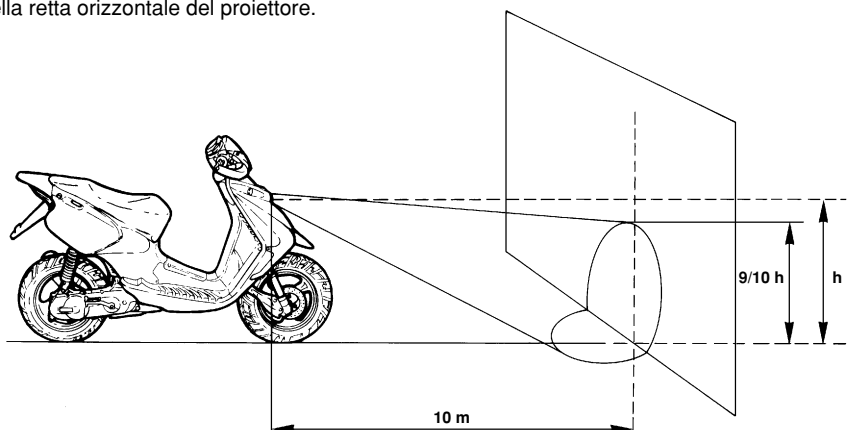

Fig. 44
- Turn on the low beam, sit on the vehicle and check whether the headlight beam projected on the wall is slightly under the horizontal line of the headlight (about 9/10 th of the distance between the head lights and the floor - Fig. 44).